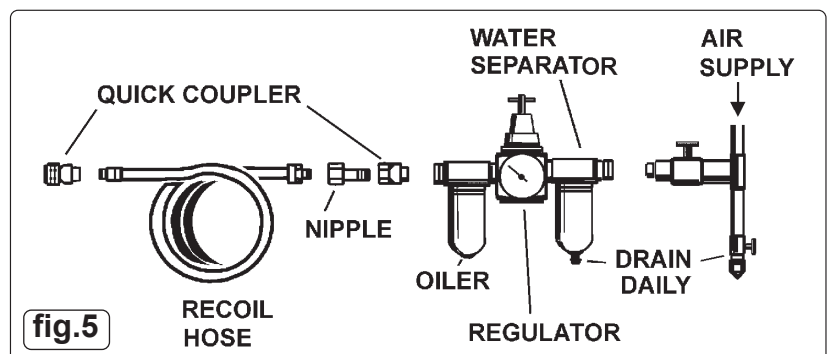

fig.5
4.6. **Connect the workshop air supply.** Recommended hook-up procedure is shown in fig.5 below.